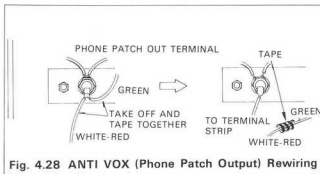

Fig. 4.28 ANTI VOX (Phone Patch Output) Rewiring
- iv) Rewire the PHONE PATCH OUT terminal as shown in Fig. 4-28. Tape the leads for proper insulation.